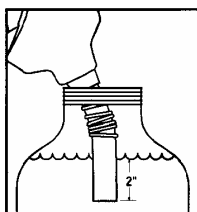

FIGURE 8/FIGURA 8
- Immerse nozzle spout in test can with at least two inches of gas covering the spout. (Figure 8) Do not place nozzle tip against bottom of container. Nozzle must shut off.